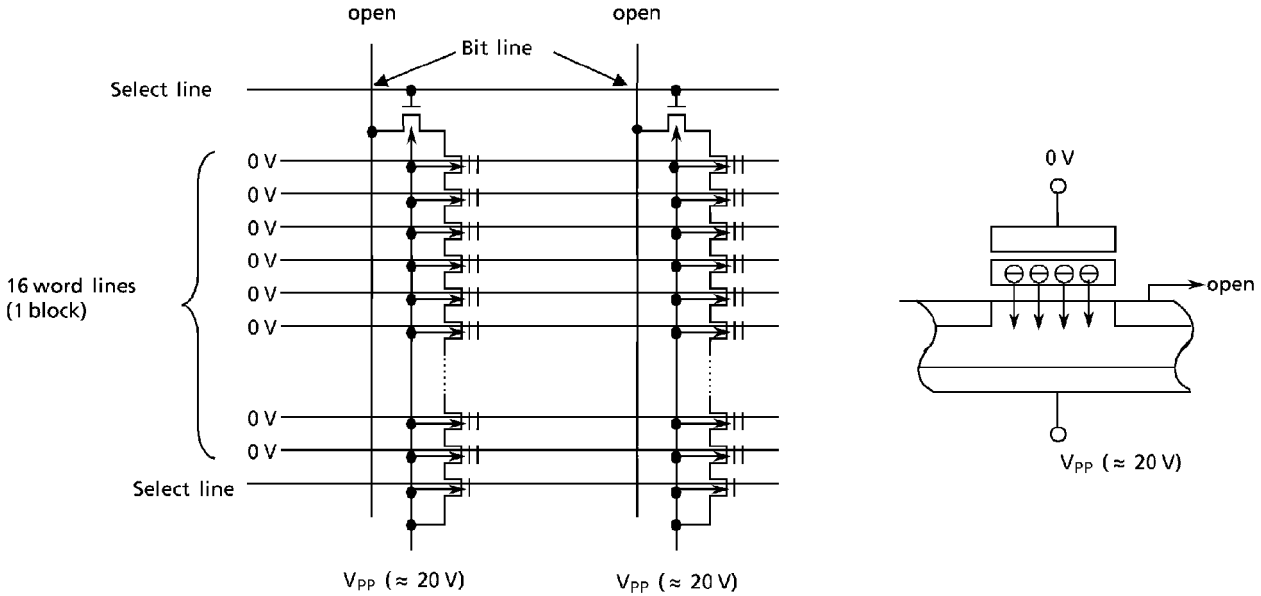

Figure 18. TC58V16 Erase Device Physics
- (1) A high level is applied to Select line 1 and a low level is applied to Select line 2 so that the device is connected to the Bit line and disconnected from the ground line.
- (2) V_{pp} ($\approx 20\text{ V}$) is applied to the selected word line and an inhibit voltage of V_{PI} ($\approx 10\text{ V}$) is applied to the unselected word lines.
- (3) 0 volts is applied to the bit line tied to cell transistor TR1 and the inhibit voltage V_{DPI} ($\approx 10\text{ V}$) is applied to the bit line tied to TR2.
- (4) V_{pp} is applied between the control gate and the channel in TR1, as shown in Figure 18, which causes electrons to be injected from the channel to the floating gate by a tunneling mechanism.
- (5) The injected electrons are captured in the floating gate surrounded by an oxide layer and will remain, even after power is cut off, until they are removed by an Erase operation.
- (6) Although 20 volts is applied to the control gate of TR2, the voltage difference between the control gate and the channel is only 10 V because the voltage of the channel is 10 V. Therefore, tunneling does not take place (i.e. the electron is not injected into the floating gate.)
- (7) Tunneling does not take place in the unselected pages because of the 10 V (V_{PI}) applied to the unselected word lines which makes the voltage difference between the control gate and channel only 10 volts.
Figure 18 shows the NAND memory cell level details of the Erase mechanism. The Erase operation is used to turn the "0" (programmed) cells back to "1" in a block. The captured electrons are pulled out from the floating gate to the substrate by a tunneling mechanism. 0 volts is applied to the control gate and V_{pp} ($\approx 20\text{ V}$) is applied to the substrate so that a 20-volt potential is created and the electrons in the floating gate are pulled out by the tunneling mechanism.